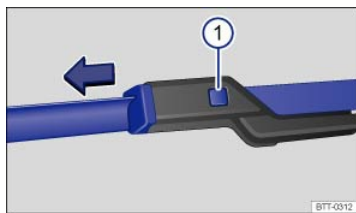

Fig. 146 Changing the windshield wiper blades.
- With one hand, press and hold the release button ⇒ Fig. 146①.